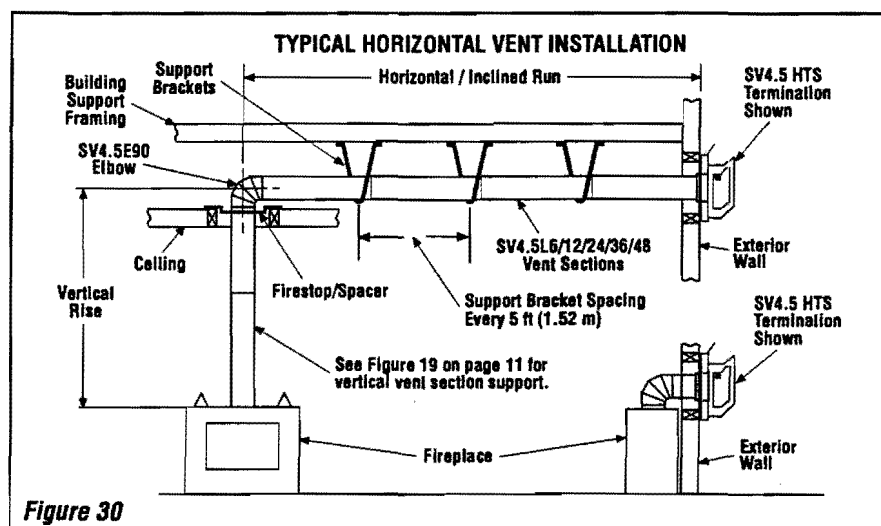

Figure 30
Figures 30, and Figures 34 to 40 on pages 17 to 19 and their associated Horizontal Vent Table illustrate the various horizontal venting configurations that are possible for use with these appliances. Secure Vent pipe applications are shown in these figures; Secure Flex pipe may also be used. A Horizontal Vent Table summarizes each system's minimum and maximum vertical and horizontal length values that can be used to design and install the vent components in a variety of applications.
**I. Continue installation of horizontal/inclined sections -** Continue with the installation of the straight vent sections in horizontal/inclined run as described in Step E. Install support straps every 5 ft. (1.52 m) along horizontal/inclined vent runs using conventional plumber's tape. See Figure 30, it is very important that the horizontal/inclined run be maintained in a straight (no dips) and recommended to be in a slightly elevated plane, in a direction away from the fireplace of 1/4" rise per foot (20 mm per meter) which is ideal, though rise per foot run ratios that are smaller are acceptable all the way down to at or near level. Use a carpenter's level to measure from a constant surface and adjust the support straps as necessary.